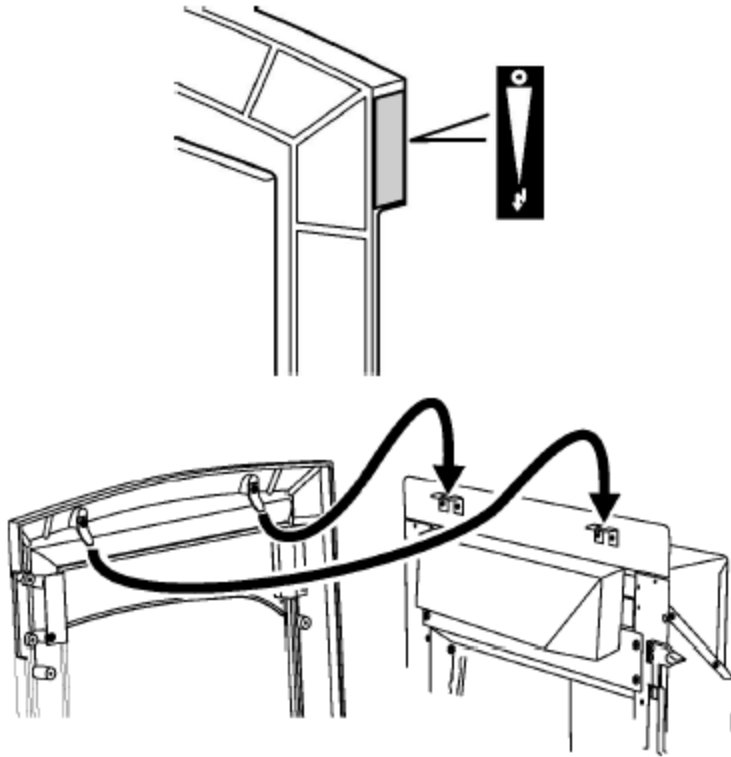

Figure 30. Fascia location (Fascia may differ from that shown).
1. Supplied with the fire is a self adhesive control position label. Peel the backing from the label and place as in figure 30.
2. Place the fascia against the fireplace front surface so that the two retaining plates at the back of the fascia are above the two upper retaining brackets at the top of the convection box. Lower the fascia making sure that the rear retaining plates locate fully into the retaining brackets on the convection box (See figure 30).
2. Supplied with the fire is a self adhesive control position label. Peel the backing from the label and place on the fascia underneath the slider knob (See figure 30).